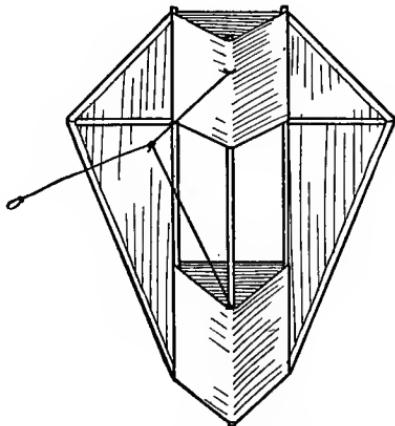

FIG. 466.—The Conyne Kite.
The Conyne Kite (Fig. 466), invented by Silas J. Conyne of Chicago, is one of the best forms of kites to use for carrying flags and banners, on account of its great lifting power. This is a patented kite, but Mr. Conyne has kindly permitted the publication of a complete description of its con-
**The Bridle** is attached to stick *C*. Tie the upper end of this 3 inches below the upper end of the stick, and the lower end 10 inches above the lower end (Fig. 466).